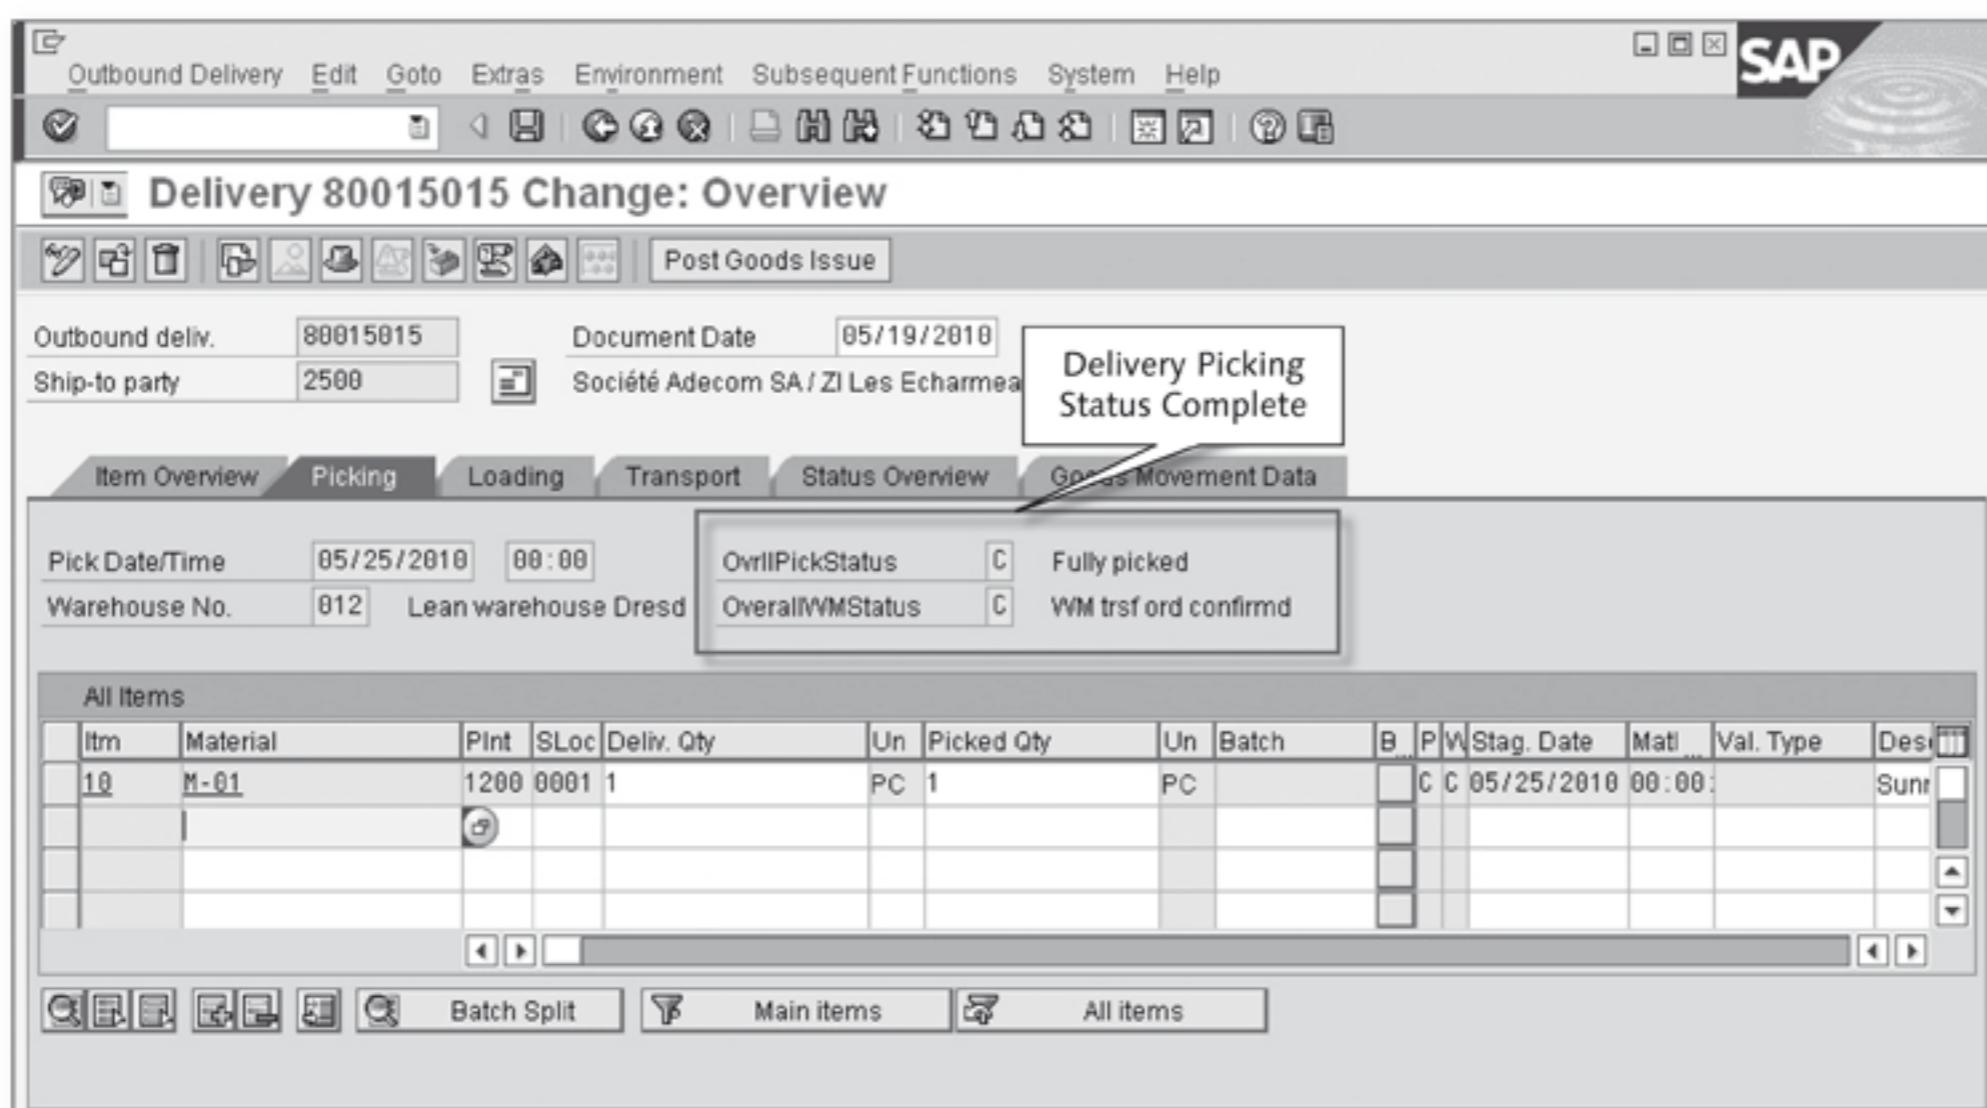

Figure 3.53 Outbound Delivery – Picking Status Complete
3. The follow-up function of creating the transfer order is required if your item category definition requires pick confirmation and you're receiving your returns into a warehouse-managed location. If you are working within a non-WM managed location, you also may have to confirm the pick quantities for the customer order on the delivery Picking tab. Figure 3.53 shows the delivery Picking tab of a WM managed location after Pick Confirmation of Transfer Orders.